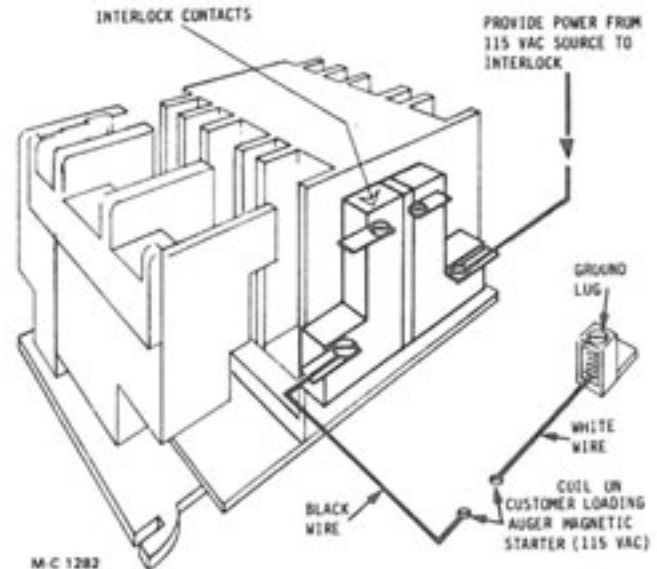

Figure 7 - Level Auger and Unload Auger Magnetic Starter
starter 115 volt coil to the dryer level auger magnetic starter auxiliary contact terminal and the white wire (neutral) to ground, see Figure 7.
3. **Take Away Equipment** - Connect the black wire (line) from the customer supplied magnetic starter 115 volt coil to the dryer unload auger magnetic starter auxiliary contact terminal and the white wire (neutral) to ground, see Figure 7.